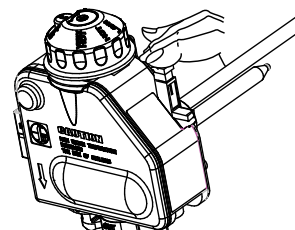
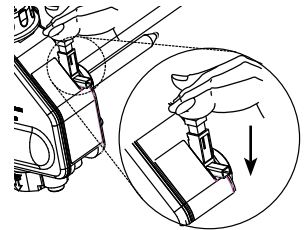

Figure 3
Figure 4
- 5) Position the new igniter into the seat of the gas valve, as shown in Figure 3. Apply by hand a maximum force of 44 lbf (20Kgf) on the button of the igniter. The applied force makes operating the igniter which will generate one click and one spark in air. Continuing to apply the force, a second click is made. The second click confirms full insertion and the mechanical locking of the body of the new igniter into its seat, as shown in Figure 4. Once inserted, do not remove the igniter.